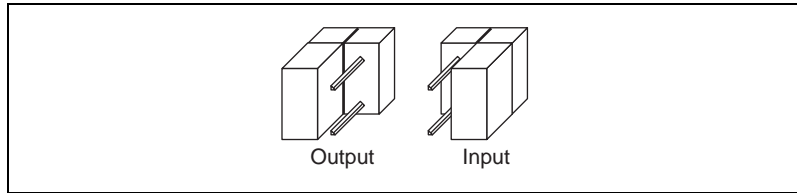

Figure 4-11. PCI- and PXI-Step Port C Direction Setting
Set the jumper (item 5 in Figure 3-4, *PCI-Step Parts Locator Diagram*, for PCI, item 3 in Figure 3-5, *PXI-Step Parts Locator Diagram*, for PXI) to input or output to select the hardware direction configuration of Port C I/O direction. Refer to Figure 4-11 for more information on jumper configuration.